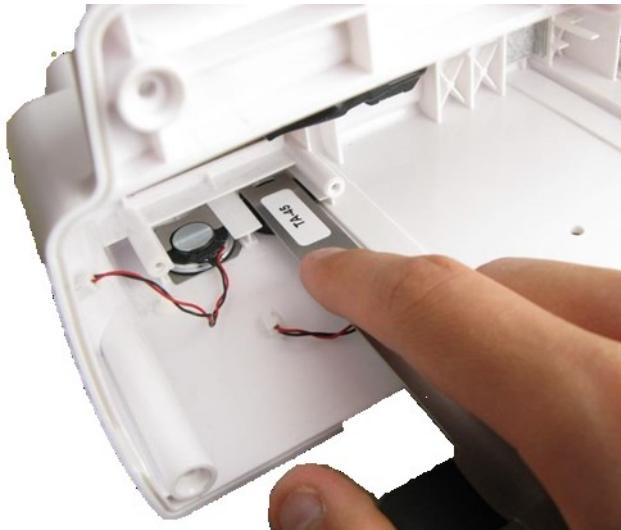

Fig. 75. Pulling out the Buzzer
- to pull out the **Buzzer (1)** use **TA-45** to pull its housing as shown in Fig. 75;